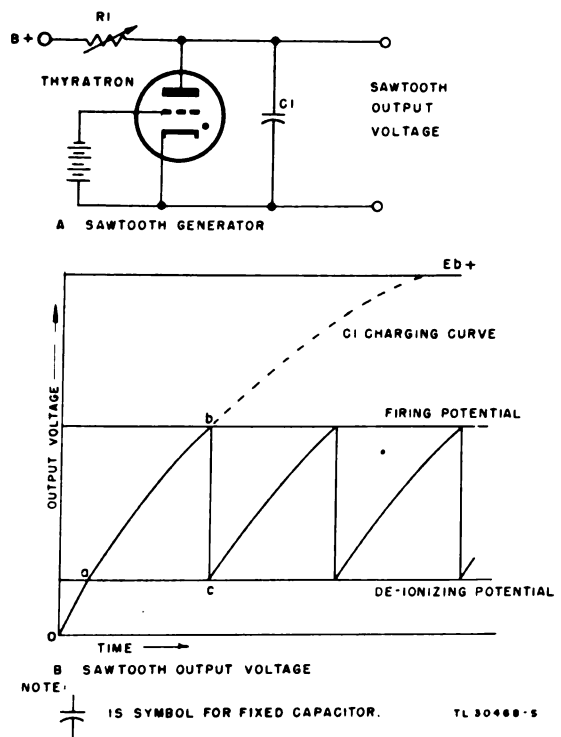
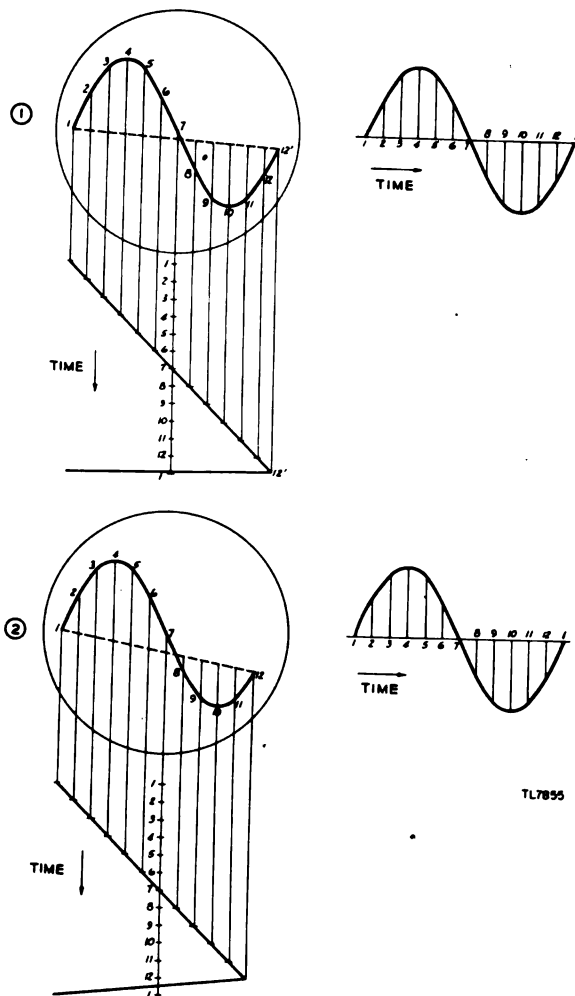

Figure 12. Simple thyratron saw-tooth generator.
Figure 18. Distortion of pattern at high screen frequencies.
tor is shown in figure 12-A. The waveform produced is shown in figure 12-B.
d. Distortion at High Sweep Frequency. The time required for the spot on the oscilloscope screen to return to its starting point and to begin tracing another sweep is a finite time since it represents the time required for the charging capacitor (C1, fig. 12-A) to discharge through the thyatron tube. This time is called the fly-back time and is represented by *bc* on figure 12-B. The fly-back time is practically constant for all sweep frequencies and thus becomes a larger proportion of the time of one sweep cycle as the frequency of the sweep is increased. This causes a distortion at high sweep frequencies as shown by figure 18. Assume that the fly-back time is 10 microseconds. In (1) (fig. 18) the period of the 1,667-cycles-per-second sine wave